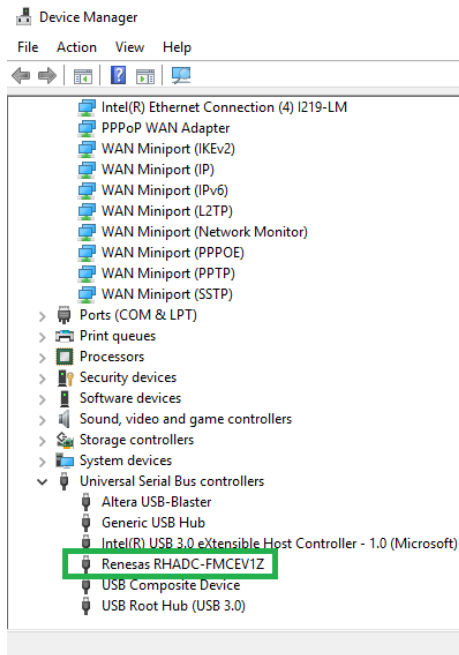

Figure 3. USB Device Driver in Device Manager
The digitized data from the ADC is passed to the RHADC-FMCEV1Z using the VITA 57.1 FMC mezzanine connector. The iRADAnalyzer application software controls the capture of data and provides FFT performance data of the ADC. Figure 3 shows the GUI interface of the application software.
1. Connect the supplied CUI 5V switching power supply to the RHADC-FMCEV1Z then connect a USB cable between the PC and the RHADC-FMCEV1Z. The board should be listed in the device manager on the PC as Renesas RHADC-FMCEV1Z under Universal Serial Bus Controllers as shown in Figure 3.